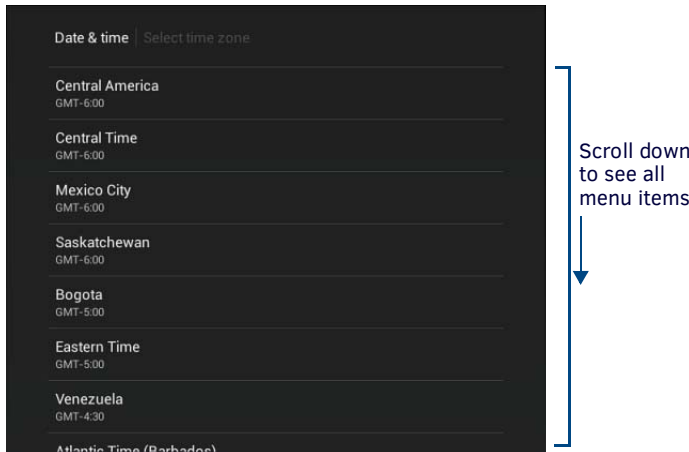

FIG. 66 Select Time Zone window
Select Time Zone:	Use the Select Time Zone window (FIG. 66) to select the current time zone.
1. Press **Select Time Zone** to open the *Select Time Zone* window (FIG. 66).